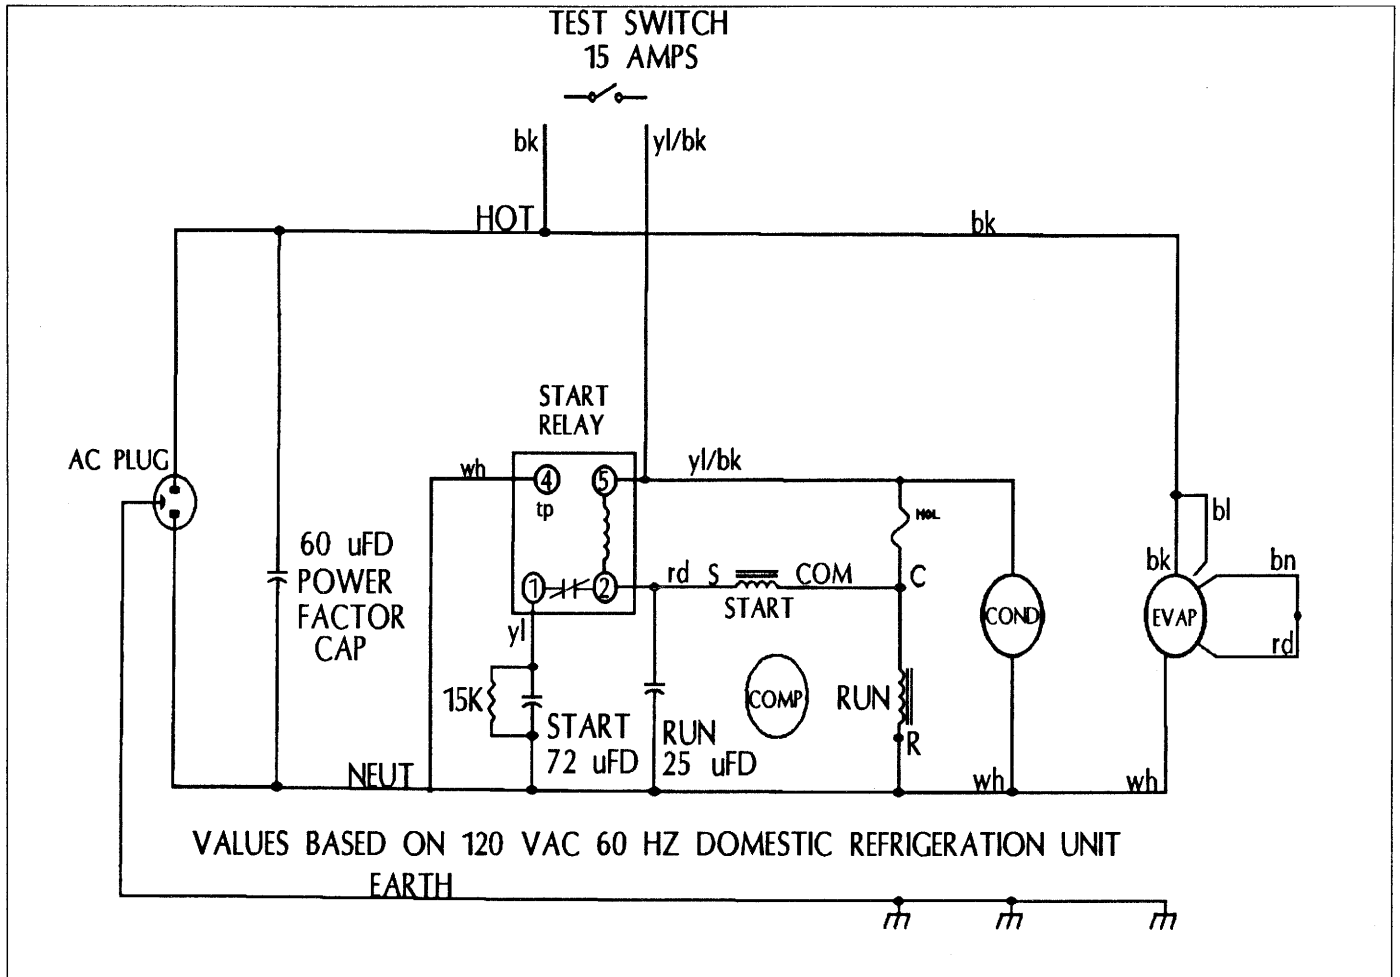

FIGURE 2
3. The Start Capacitor, Run Capacitor, and Start Relay are best tested by substituting them with known good components. This way there can be no doubt of test results. See Figure 2 on page 3 - 3.